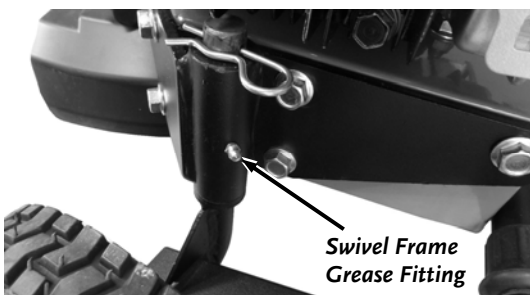

Figure 28
1. Apply general-purpose lithium grease to the Swivel Frame Grease Fitting (**Figure 28**).